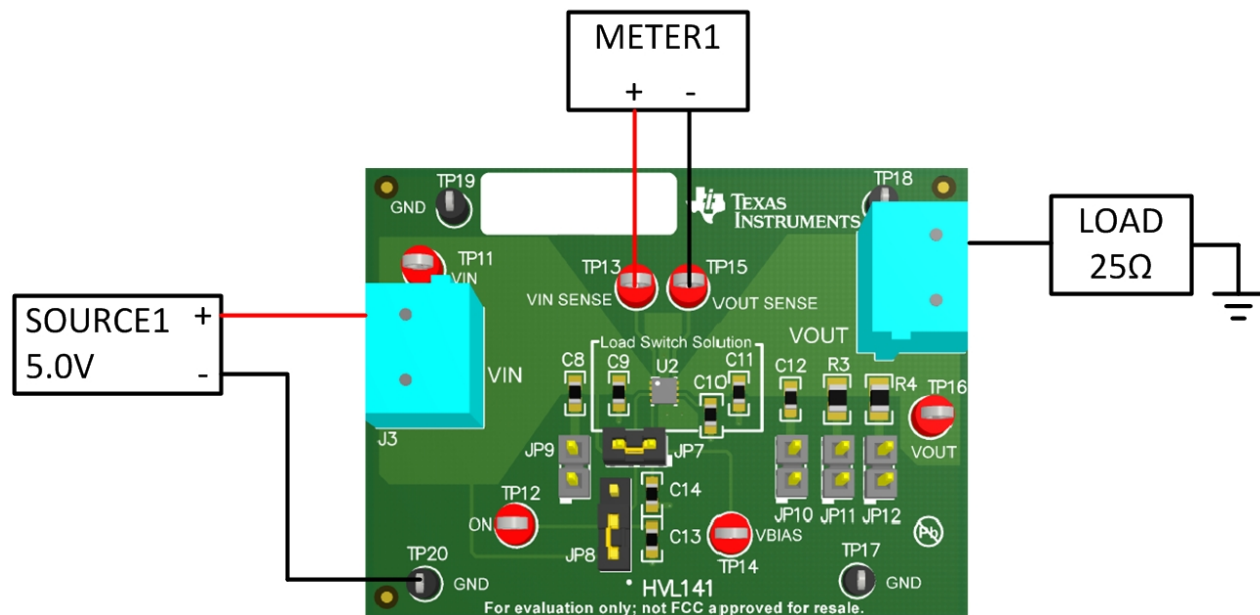

Figure 3. R_{ON} Test Setup
1. Setup the EVM per Figure 3.